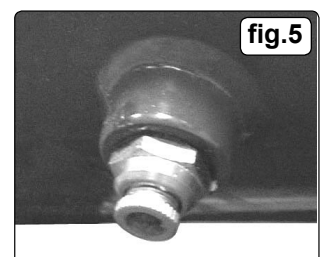

fig.5
- 4.3.4. When starting the compressor for the first time, leave it running for several minutes with the drain valve (fig.5) open to ensure good distribution of the lubricating oil. Turn the compressor off and close the drain valve. Restart the compressor and leave it running with drain valve (fig.5) closed and regulator (fig.3.2) set to maximum pressure. Make sure that pressure in the tank rises and that the compressor stops automatically when the max. pressure value allowed - written on the specification plate and shown on the gauge (fig.3.5) - is achieved. The compressor will now operate automatically. The pressure switch (fig.3.7) stops the motor when the maximum tank pressure is reached and restarts it when pressure falls below the minimum threshold - approx. 2 bar (29psi) less than the maximum pressure.
a) Drain condensation by opening the valve located under the tank (fig.5). Place a container under the valve and slowly open the valve by turning anti-clockwise.